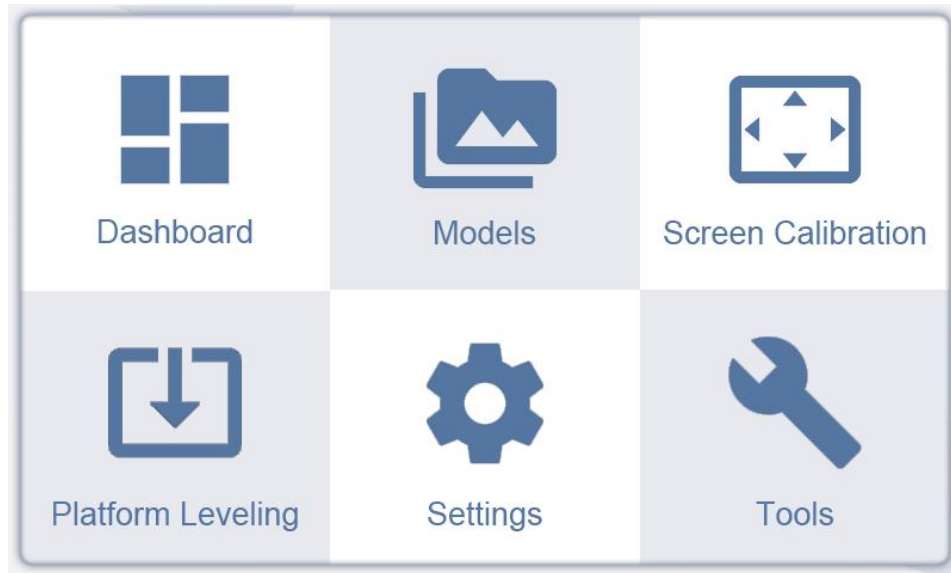

Figure 3-3
- 1、The default factory language configuration of this device is English. As shown in Figures3-3 and 3-4.